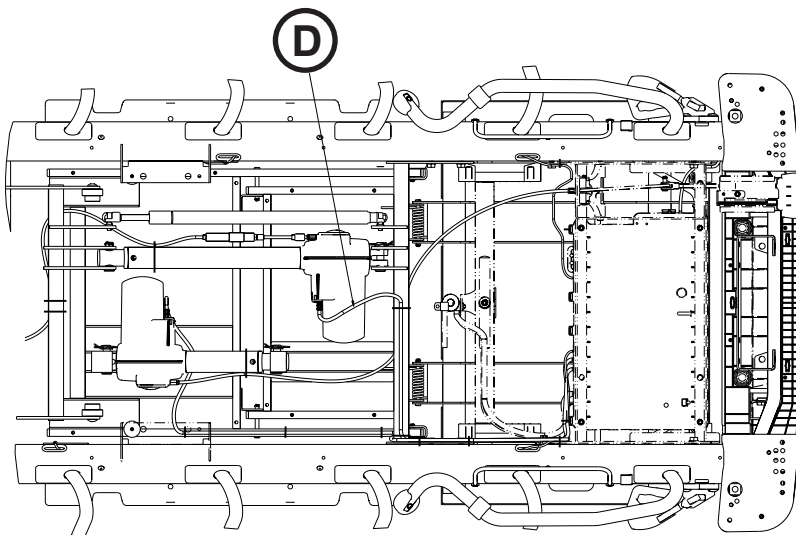

Figure 41
7. Using a small slotted screwdriver, remove the actuator power cable retainer and unplug the power cable (D) from the actuator (Figure 41 on page 60).
- Reconnect the power cable (D) and reinsert the power cable retainer (Figure 41).